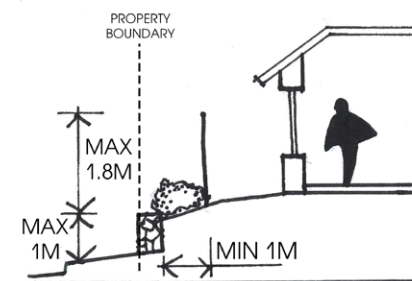

Figure 6
- The maximum height for any retaining wall and fencing that is terraced and is located on the boundary of a public road or reserve is 2.8 metres, comprised of a maximum 1 metre retaining wall, and 1.8 metres fence that is offset by 1 metre and landscaped (see figure 6 sketch).